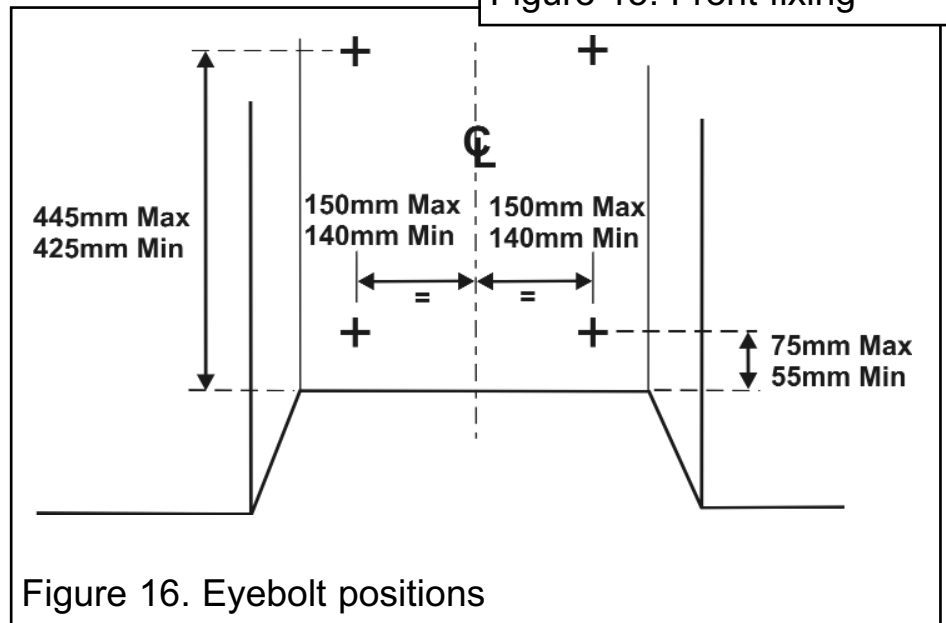

Figure 16. Eyebolt positions
2. Drill four holes in the rear wall of the fireplace for the fibre / wooden plugs. The holes should be drilled within the range of positions shown in figure 16 using a suitably sized masonry drill bit for the fibre / wooden plugs supplied. The holes should be equidistant each side of the centre line of the fireplace to ensure that the appliance finishes centrally in the opening when tension is applied to the cables.